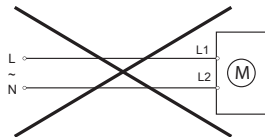

Fig. 3
- Connect the fan to the mains in accordance with the wiring diagram, Fig. 3.
- The fan can be set at different speeds, Fig. 3. L_2 is the max. speed, L_1 is the min. speed. A separate switch can also be fitted for speed adjustment. This is illustrated as max/min in Fig. 3.